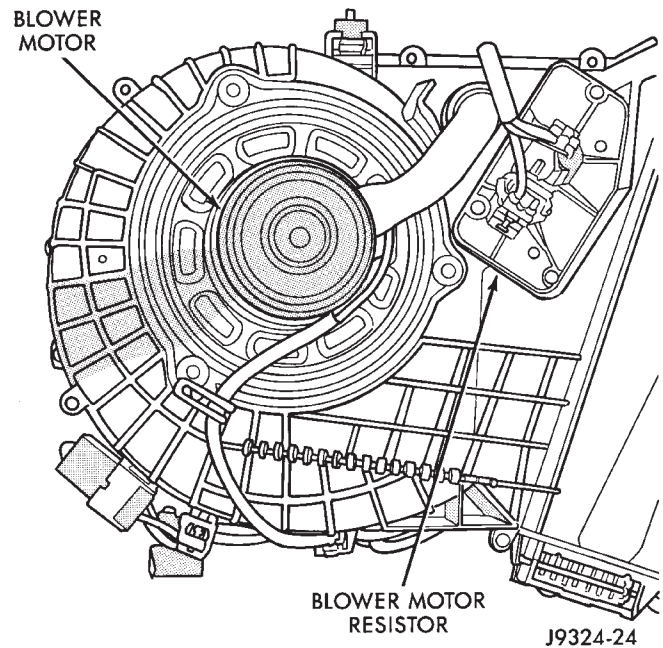

Fig. 48 Blower Motor Resistor or Power Module Remove/Install
- (1) Disconnect and isolate the battery negative cable.
- (2) Unplug the blower motor resistor/power module wire harness connector.
- (3) Remove the screws that secure the resistor/power module to the heater-A/C housing.
- (4) Remove the blower motor resistor/power module (Fig. 48).